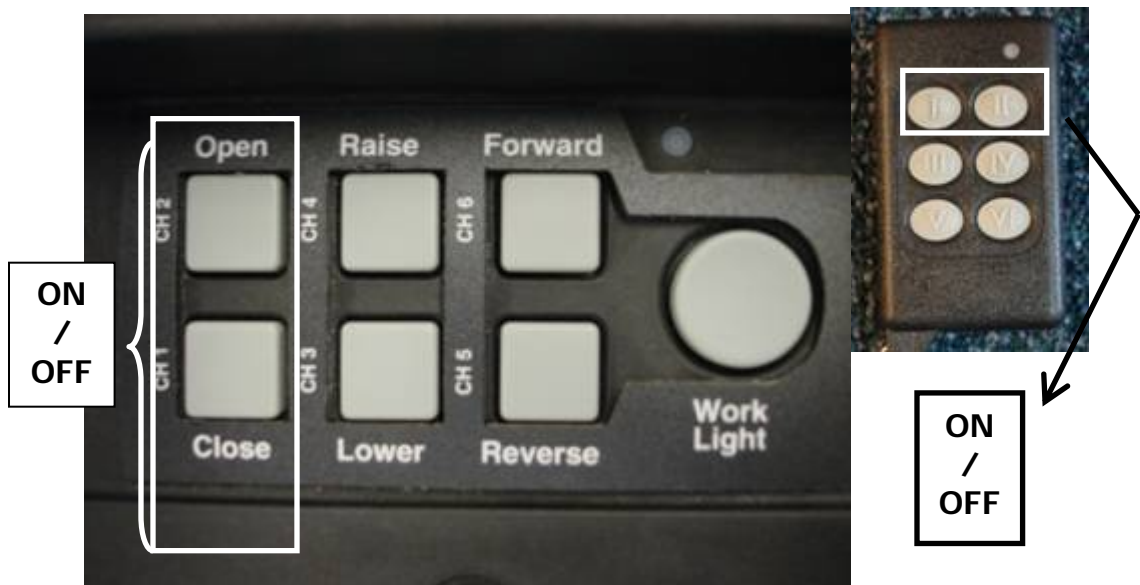

Figure 1
- 1) On all systems with remote control operation you must turn on the control box. To activate (power up or down) the control box you must press and hold buttons one and two on the control box or the key fob for 3 seconds (see Fig. 1). Non remote control systems are always active.